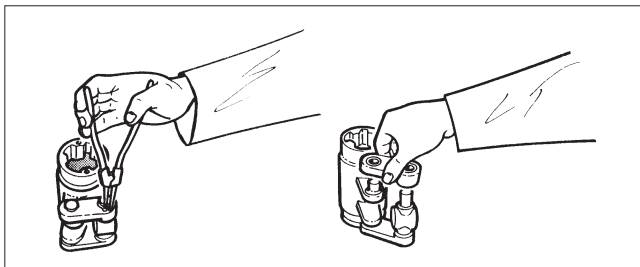

Fig. 16 Dismantling the linkage
- Remove lock rings (36) and support rings (37). See Fig. 16.
- Remove connection arms (4), ring (4A) and check the condition of the bearings (20, 21).
- Remove lever arm bearings (23), O-rings (17) and the grounding ring (3A).
- Install the grounding ring (3A), the lever bearings (23) and the O-rings (17). The grounding rings (3A and 4A) are needed to meet the ATEX requirements.
- Assemble the linkage and install in the housing. See Figure 16 for the correct position. Note the ring (4A).
- Apply sealant, e.g. Loctite 225, to the bearing unit screw (29) thread and tighten the screw as in Table 2.
- Remove lever arm bearings (23) and O-rings (17) and the grounding ring (3A).
- Apply sealant, e.g. Loctite 225, to bearing unit screw (29) thread and tighten the screw as in Table 2.
- Install new cylinder base O-ring (19). Install the cylinder.